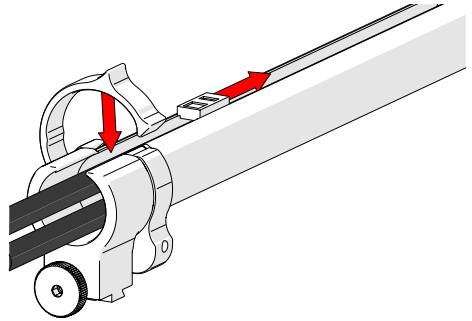

Fig. 85 - Zip up to close
2. Follow the cable placement, zipping the sleeving closed (*Fig. 85*).